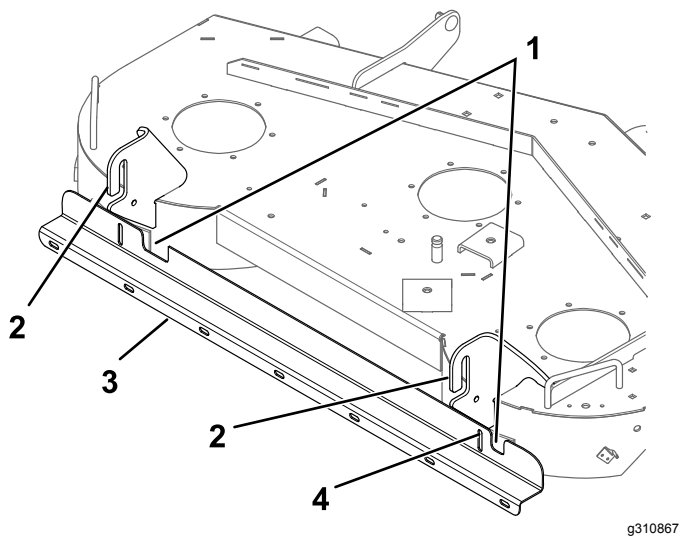

Figure 3
3. Using the bracket as a template, mark and drill a hole in the right skid using a 9/32 inch drill bit (Figure 3).